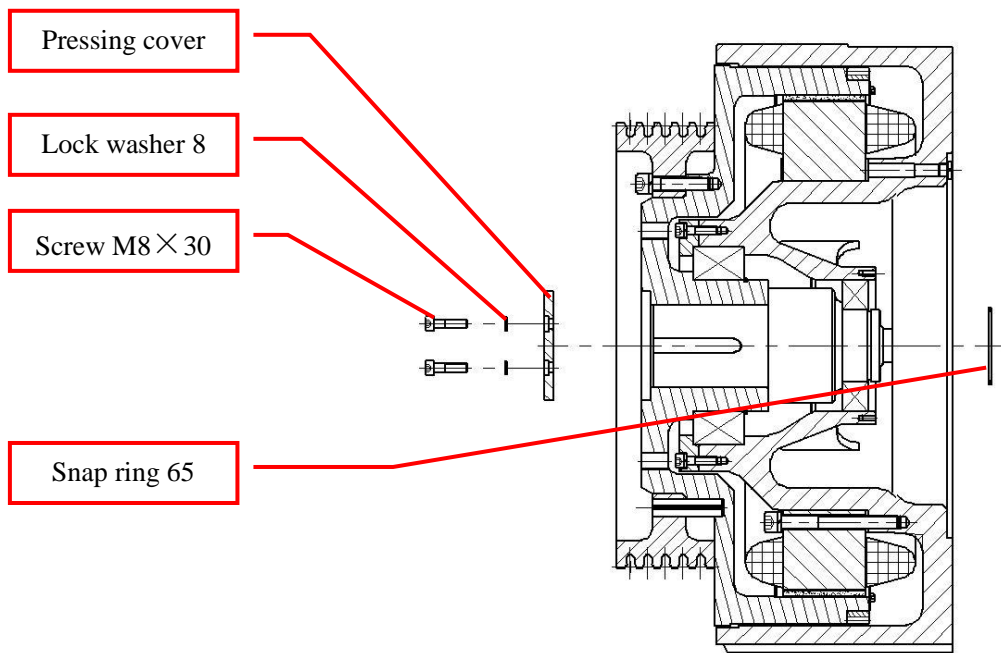

Figure 59: Remove Pressing cover and Snap ring
6. Remove the screws M8×30 and lock washers 8 with inner hex wrench (6mm), then remove the pressing cover. Remove the snap ring 65 with snap ring pliers. See Figure 59.